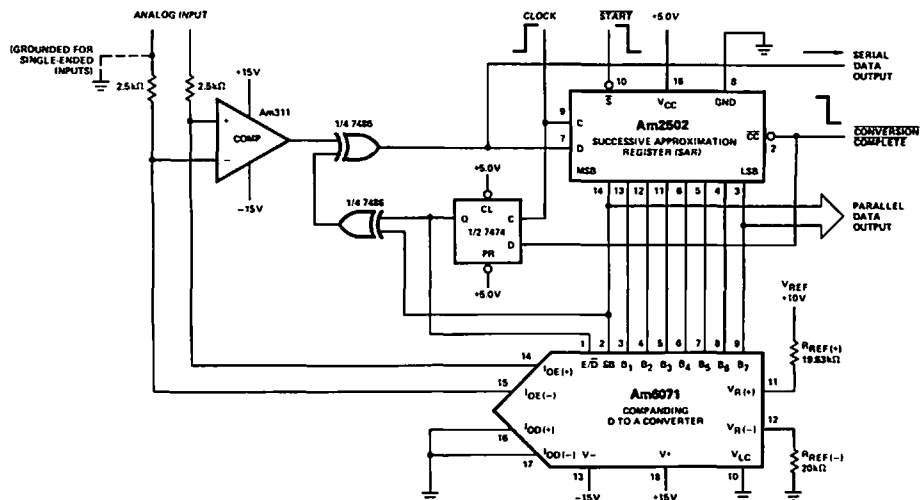

Figure 3. Detailed Encoder Connections.
In Figure 3, an offset current equal to a half step in each chord is required to obtain the correct encoder transfer characteristic. Since the size of this step varies from one chord to another, it cannot easily be added externally. As indicated in the block diagram this required half step of encode current, I_{EN} , is automatically added to the I_{OE} output through the internal chip design. This additional current will, for example, make the ideal full scale current in the encode mode larger than the same current in the decode mode by $32\mu\text{A}$. Similarly, the current levels in the first chord near the origin will be offset by $0.5\mu\text{A}$, which will bring the ideal encode current value for step 0 on chord 0 to $1.0\mu\text{A}$ with respect to the corresponding decode current value of $0.5\mu\text{A}$. This additional encode half step of current can be used for extension of the output dynamic range from 62dB to 66dB, when the converter is performing only the decode function. The corresponding decoder connection utilizes the E/D input as a ninth digital input and has the outputs $I_{OD(+)}$ and $I_{OE(+)}$ and the outputs $I_{OD(-)}$ and $I_{OE(-)}$ tied together, respectively.
When encoding or compression of an analog signal is required, the Am6071 can be used together with a Successive Approximation Register (SAR), comparator, and additional SSI logic elements to perform the A/D data conversion, as shown in Figure 3. The encoder transfer function, shown on page 1, characterizes this A/D converter system. The first task of this system is to determine the polarity of the incoming analog signal and to generate a corresponding SB input value. When the proper START, (S), and CONVERSION COMPLETE, (CC), signal levels are set, the first clock pulse sets the MSB output of the SAR, Am2502, to a logic 0 and sets all other parallel digital outputs to logic 1 levels. At the same time, the flip-flop is triggered, and its output provides the E/D input with a logic 0 level. No current flows into the I_{OE} outputs. This disconnects the converter from the comparator inputs, and the incoming analog signal can be compared with the ground applied to the opposite comparator input. The resulting comparator output is fed to the Am2502 serial data input, D, through an exclusive-or gate. At the same time, the second input to the same exclusive-or gate is held at a logic 0 level by the additional successive approximation logic shown in Figure 3. This exclusive-or gate inverts the comparator's outputs whenever a negative signal polarity is detected. This maintains the proper output current coding, i.e., all ones for full scale and all zeros for zero scale.